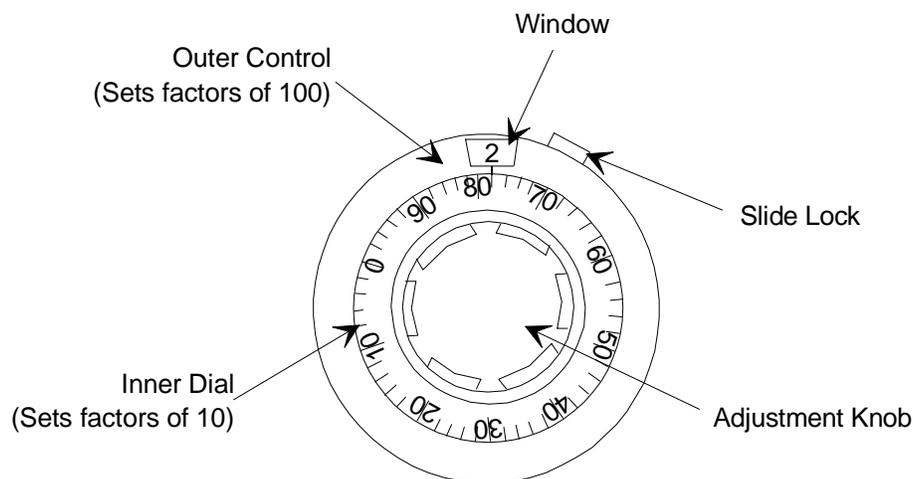

Figure 11: Gauge Factor Scaling Control Potentiometer - Example Setting
- c. Continue turning the adjustment knob until the line on the dial which represents “78” is aligned with the vertical line beneath the window, as shown in Figure 11.